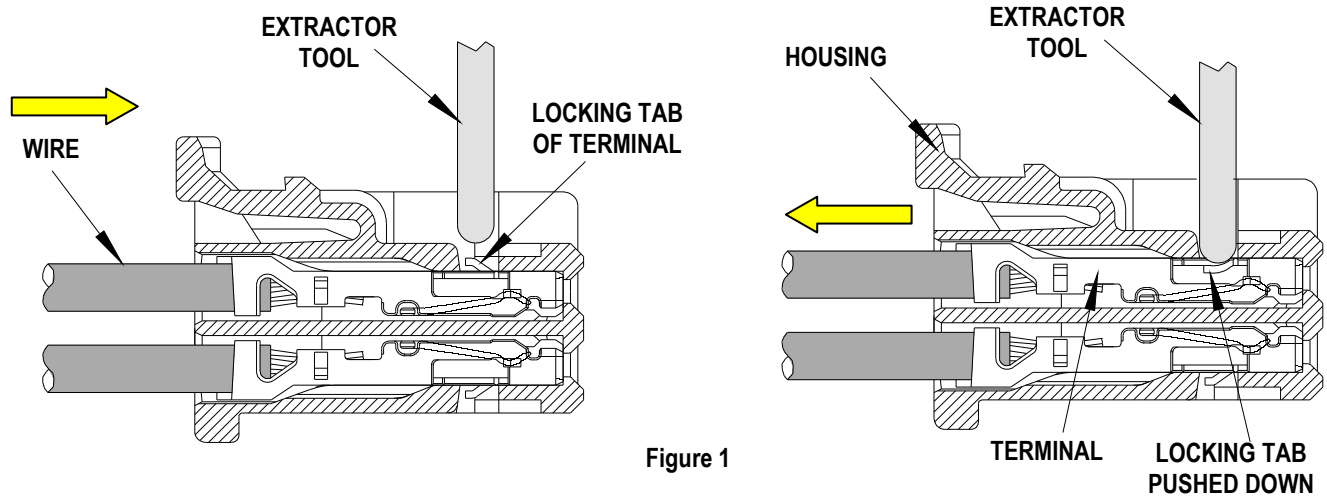

Figure 1
2. Holding the wire and the tool together, pull the wire back through the connector slot in the arrow direction as shown in Figure 1.